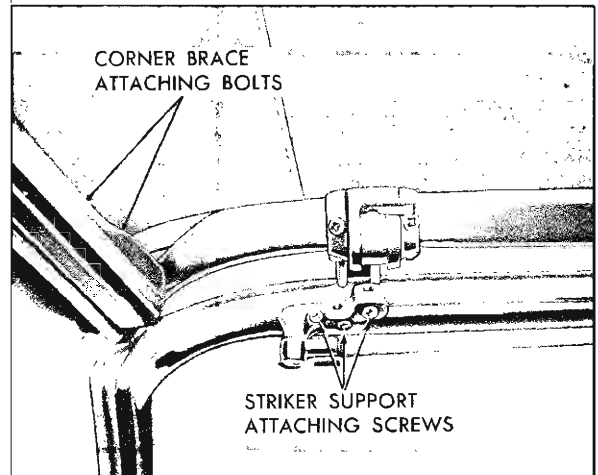

Fig. 21-15 Front Roof Rail Adjustment
- B. After top is raised, guide studs on lock assembly into striker holes; then engage each folding top locking handle with striker on windshield header (Fig. 21-15).
- D. Holding top down with one hand, reach into car and engage each folding top locking handle with striker on windshield header (Fig. 21-15).